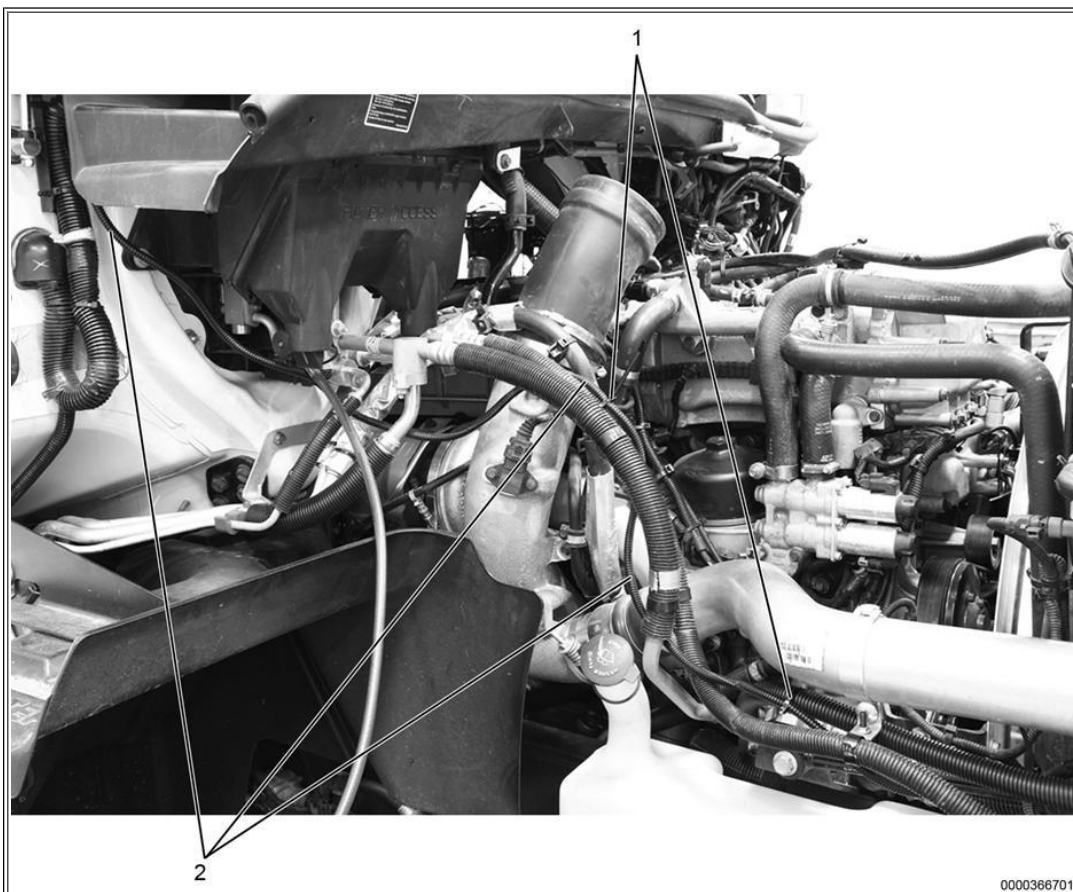
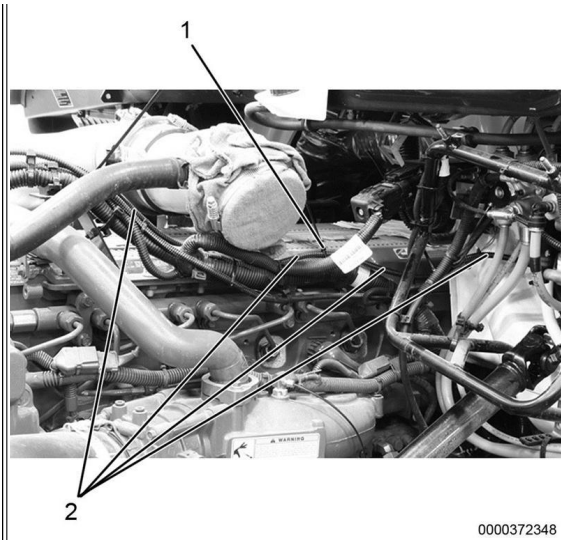

Figure 13: Kit-Supplied PT Sensor - N13 Equipped ProStar 122.
Figure 14: Kit-Supplied PT Sensor - Cummins Equipped ProStar 122.
39. Continue securing harness (Figure 13, Item 2, or, Figure 14, Item 1 [Dependent On Engine Equipped]) towards cowl using tie-wraps (Figure 13, Item 1, or, Figure 14, Item 2 [Dependent On Engine Equipped]).